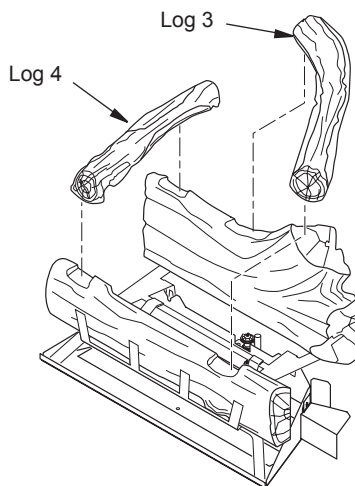

Figure 24 - Installing Log 3 and 4
3. Place log 3 into notches on left side of logs 1 and 2 (see Figure 24, page 15).
4. Place log 4 into notches on right side of logs 1 and 2 (see Figure 24, page 15).